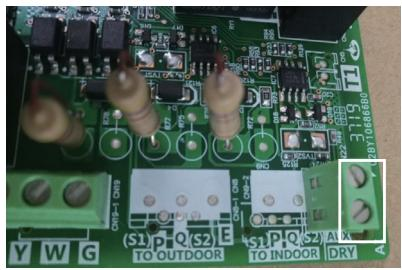

Fig. 29 — Connect the auxiliary heat wires
10. Connect the low voltage control wires of the electric auxiliary heat module to the AUX terminals of the 24V module board (not polarity sensitive). Figure 29 shows the module board terminal.